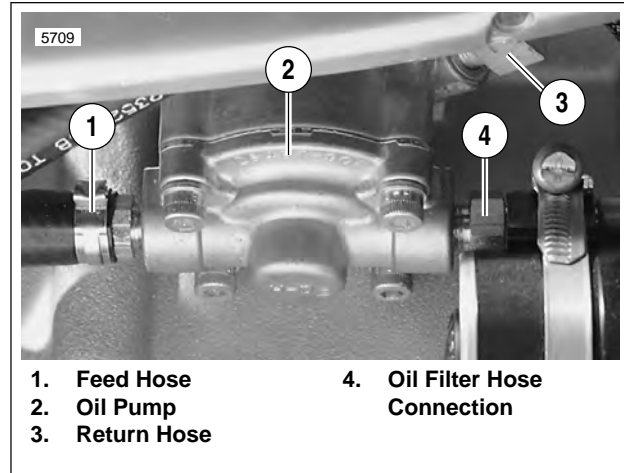

Figure 3-44. Oil Pump Connections
See Figure 3-44. The feed (1) and return hoses (3) run together between the swingarm mount block and crankcase. Protective covers prevent damage to the hoses. The hoses continue on beneath the engine and forward to the oil pump. The feed hose (1) attaches to the rear most oil pump fitting; the return hose (3) connects forward and above.